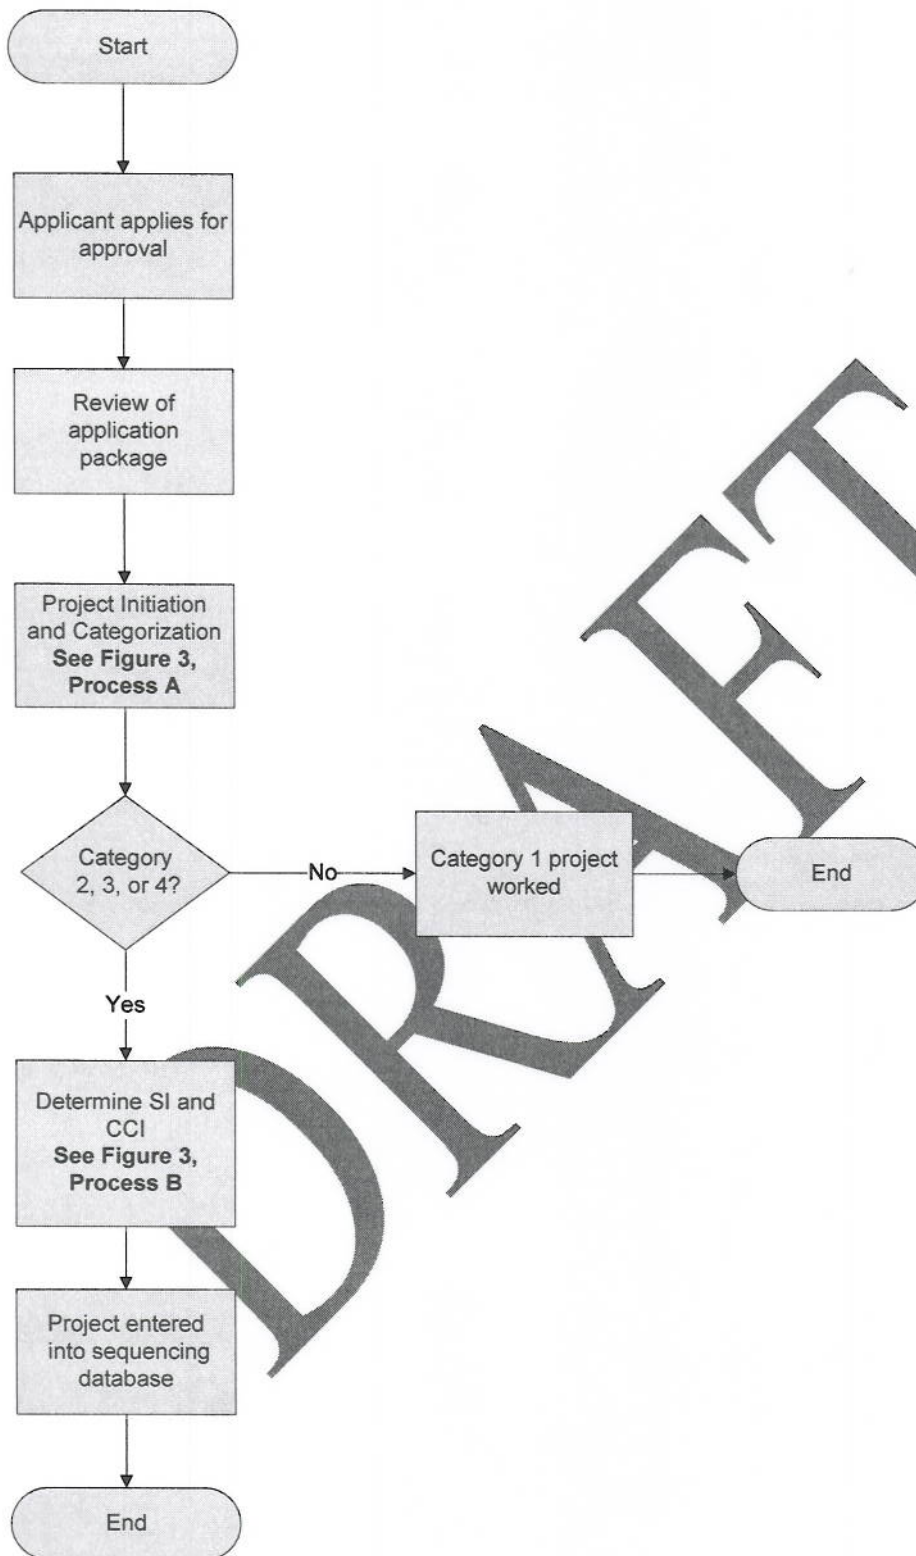

Figure 2 Certification/Validation Project Enters Sequencing
- (1) A certification/validation project is received by an FAA organization and is initially reviewed, see Figure 2.